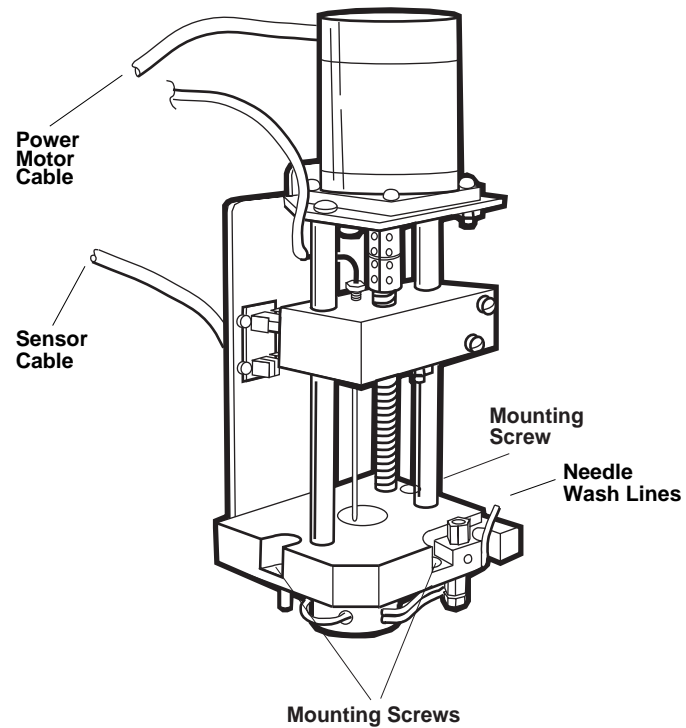

Figure 5-6 Removing the Injector (shown with Safety Shield Removed)
6. Disconnect the two needle wash lines from the right side of the injector (Figure 5-6).
7. Using the long flat-blade screwdriver, loosen the three mounting screws securing the injector to the floor of the compartment (see Figure 5-6).